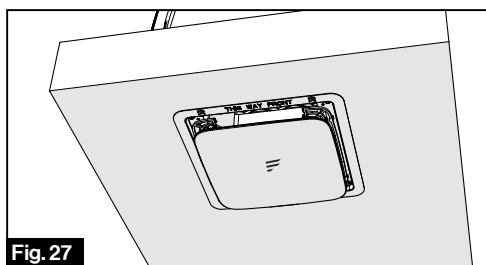

Fig. 27
8. Install the decoration plate back. Your new rooftop air conditioner has now been fully installed in the RV roof. (Fig. 27)